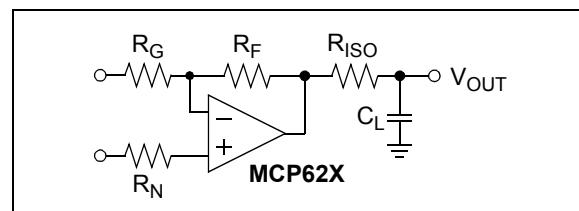

FIGURE 4-9: Output Resistor, R_{ISO} Stabilizes Large Capacitive Loads.
- Limit I_{OUT} using R_{ISO} (see Figure 4-9)
When driving large capacitive loads with these op amps (e.g., $> 10 \text{ pF}$ when $G = +1$), a small series resistor at the output (R_{ISO} in Figure 4-9) improves the feedback loop's phase margin (stability) by making the output load resistive at higher frequencies. The bandwidth will be generally lower than the bandwidth with no capacitive load.